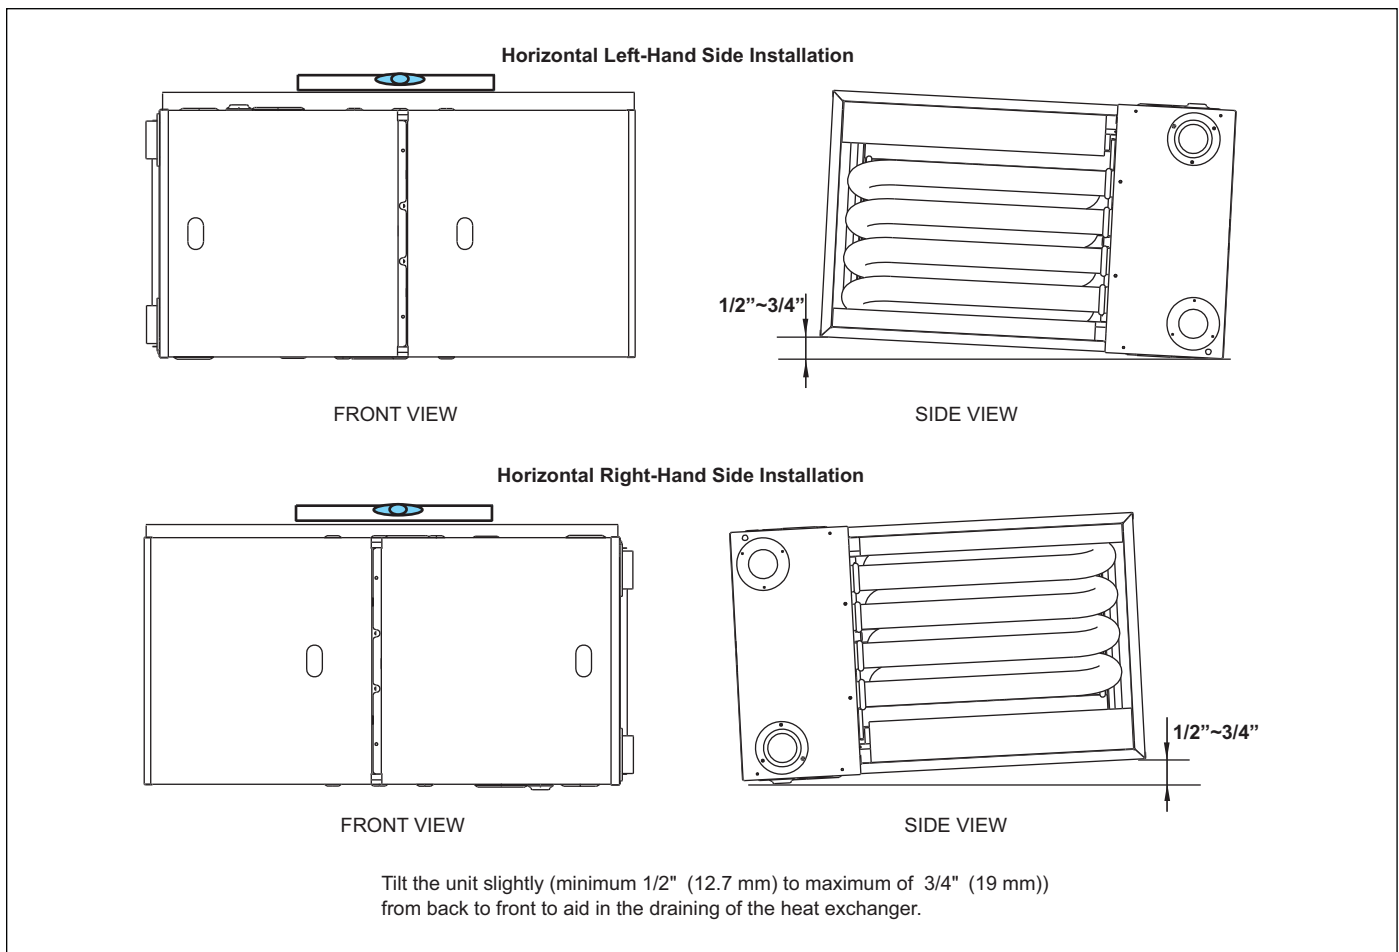

Figure 9 Horizontal Application-Setting Equipment
The furnace can be installed horizontally in an attic or crawl space on bottom or either the left-hand (LH) or right-hand (RH) side (See Figure 9). The furnace can be hung from floor joists, rafters or trusses or installed on a non-combustible platform, blocks, bricks or pad.
Leveling ensures proper condensate drainage from the heat exchanger and induced draft blower. For proper flue pipe drainage, the furnace must be level lengthwise from end to end. The furnace should also have a slight tilt with the access doors downhill ((minimum 1/2 (12.7 mm) to maximum of 3/4 (19 mm)) from the back panel. The slight tilt allows the heat exchanger condensate, generated in the recuperator coil, to flow forward to the recuperator coil front cover. Refer to Figure 9.